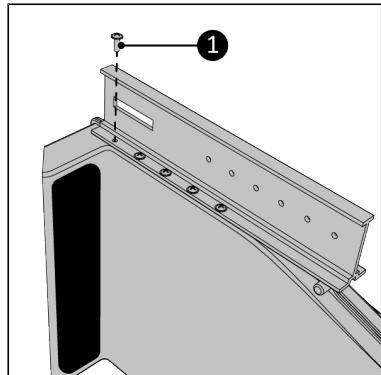

Figure 88.
6. Screw the main rail to the Way-out using the ten 3,5 x 10 mm screws (Figure 88, pos. 1). Make sure all screw holes match up.